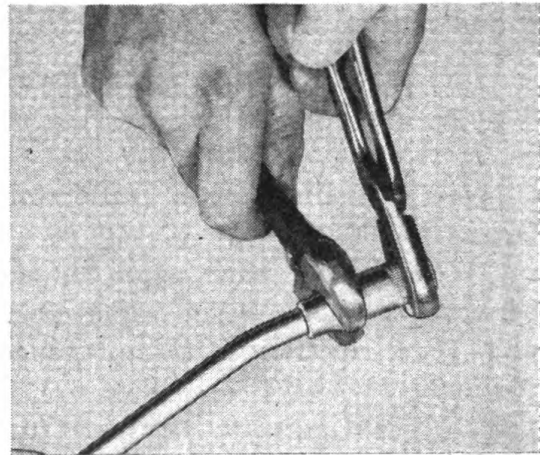

Figure 55
(1) Be sure leak is not due to a damaged fitting. If so, replace fitting.
(2) Remove end sleeve of coupling (See Figure 55). Use small pipe wrench or pliers on sleeve while